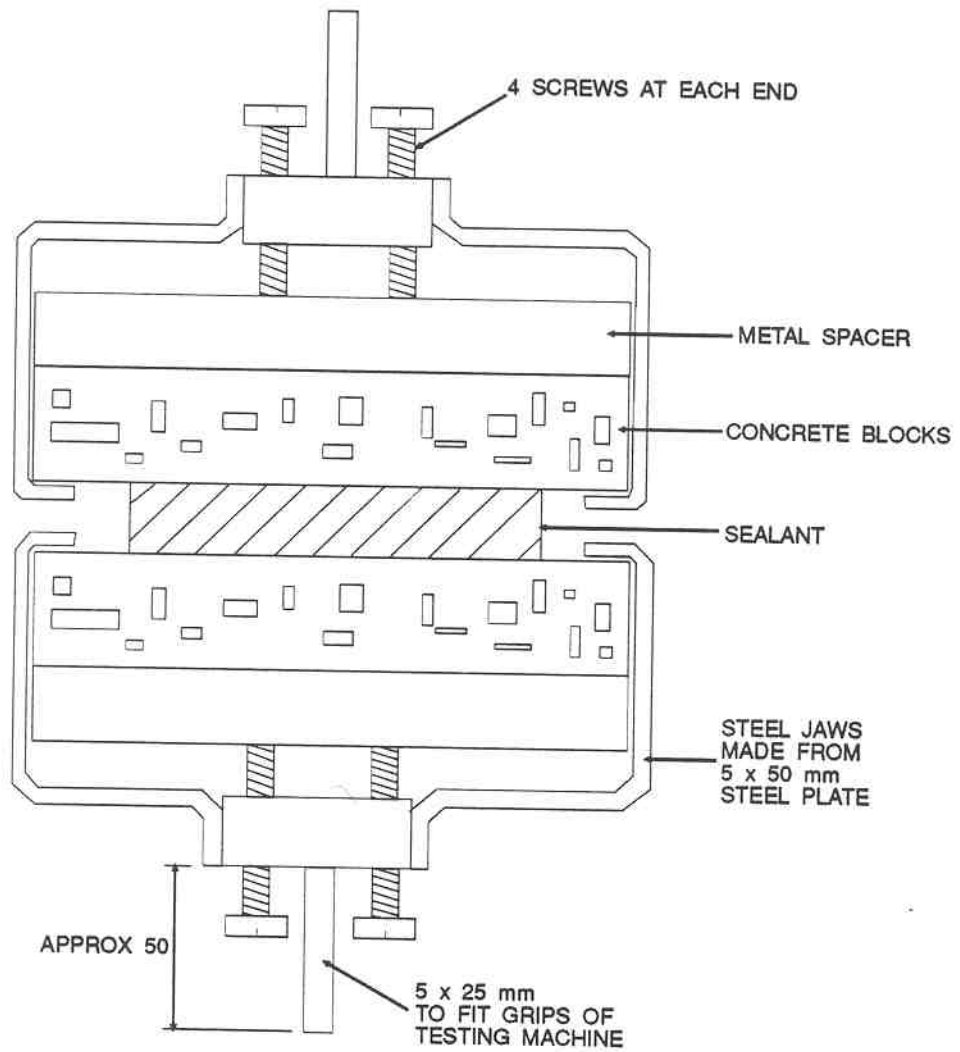

FIGURE 2
- (d) A tension/compression jig as detailed in Fig. 2.